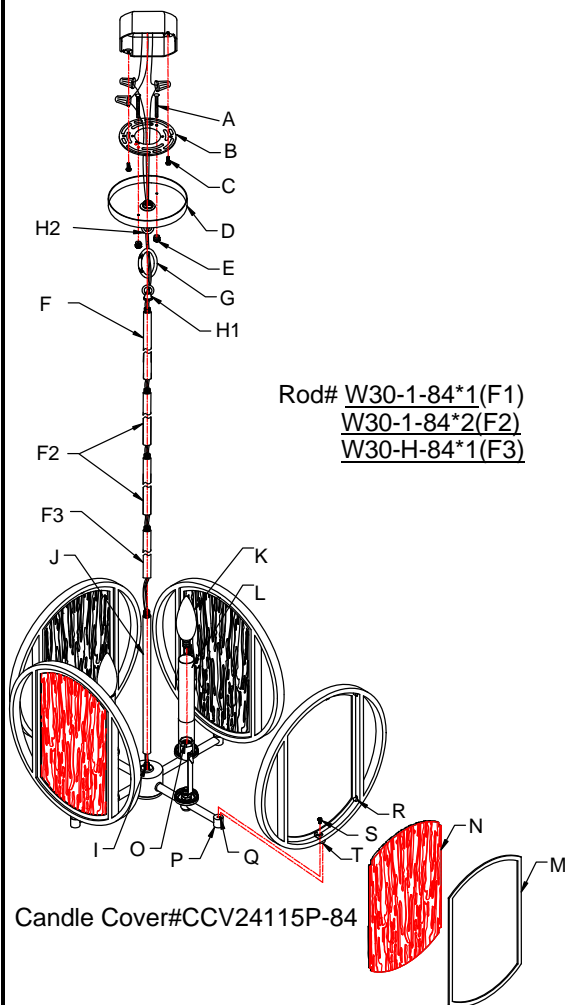

Fig. 3
CONNECTING THE WIRES (Fig. 3)
8. At this point, connect the electrical wires as shown in figure 3, making sure that all wire connectors are secured. If your outlet has a ground wire (green or bare copper), connect the fixture's ground wire to it. Otherwise, connect the fixture's ground wire directly to the circular strap using the green screw provided.